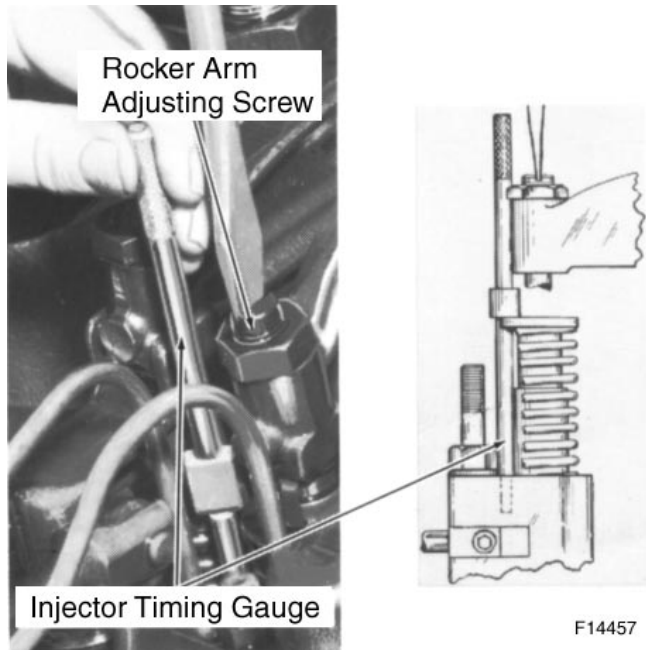

Figure 5-36. Timing Mechanical Unit Injector (MUI)
- A. Insert injector timing gauge into the hole provided for it in the injector body, Figure 5-36., on page 5-43